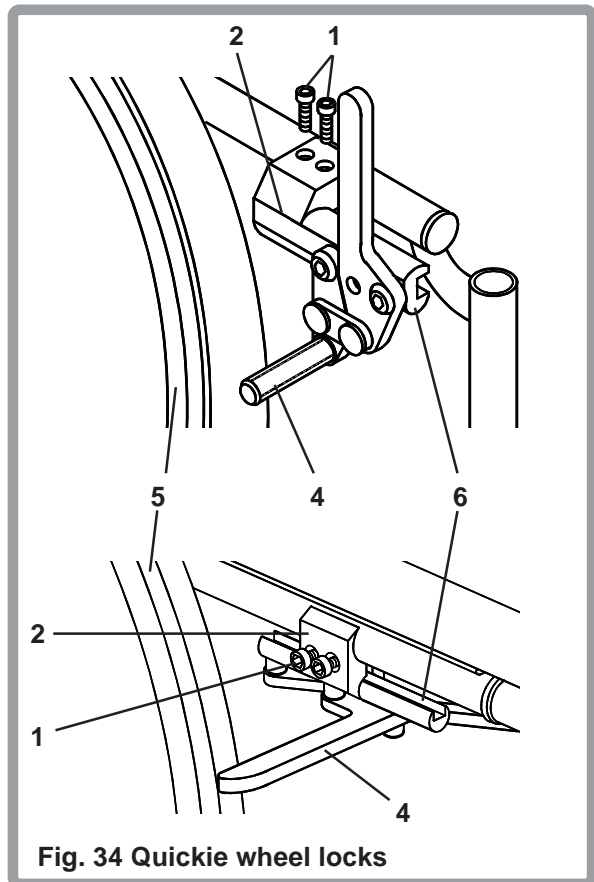
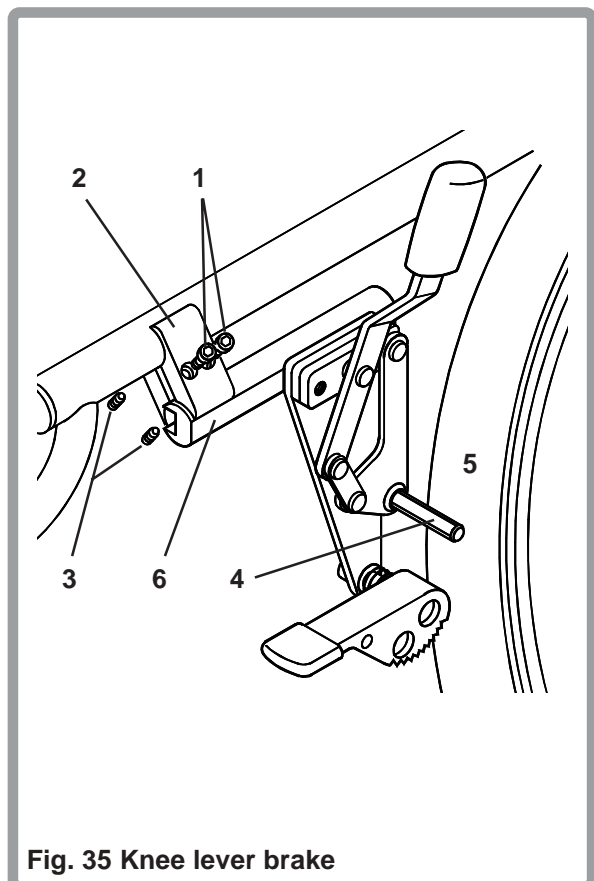

Fig. 34 Quickie wheel locks
Fig. 35 Knee lever brake
To adjust, loosen the two screws (1) on each clamp (2), and the screws (3 - Fig. 35) on the underside of each clamp (note the screws are shown removed for clarity). Using a 5mm Allen key turn one of the screws anticlockwise $\frac{1}{4}$ turn (Fig. 34 and 35). Repeat the process with the other screws. Loosen the four screws until the clamp can slide freely. Slide the clamp towards the rear wheel until the grip bar (4) embeds into the tyre (5) approximately 4mm ($\frac{3}{16}$ ") when in the locked position. Tighten the screws to a torque setting of 15Nm. Some adjustments to the wheel lock position can be accomplished without moving the clamp. To adjust, loosen the four screws as above. Slide the mounting bar (6) forward or backwards and rotate it to the correct angle position. The grip bar should embed into the tyre approximately 4mm ($\frac{3}{16}$ ") when in the locked position. Tighten the screws to a torque setting of 15Nm.